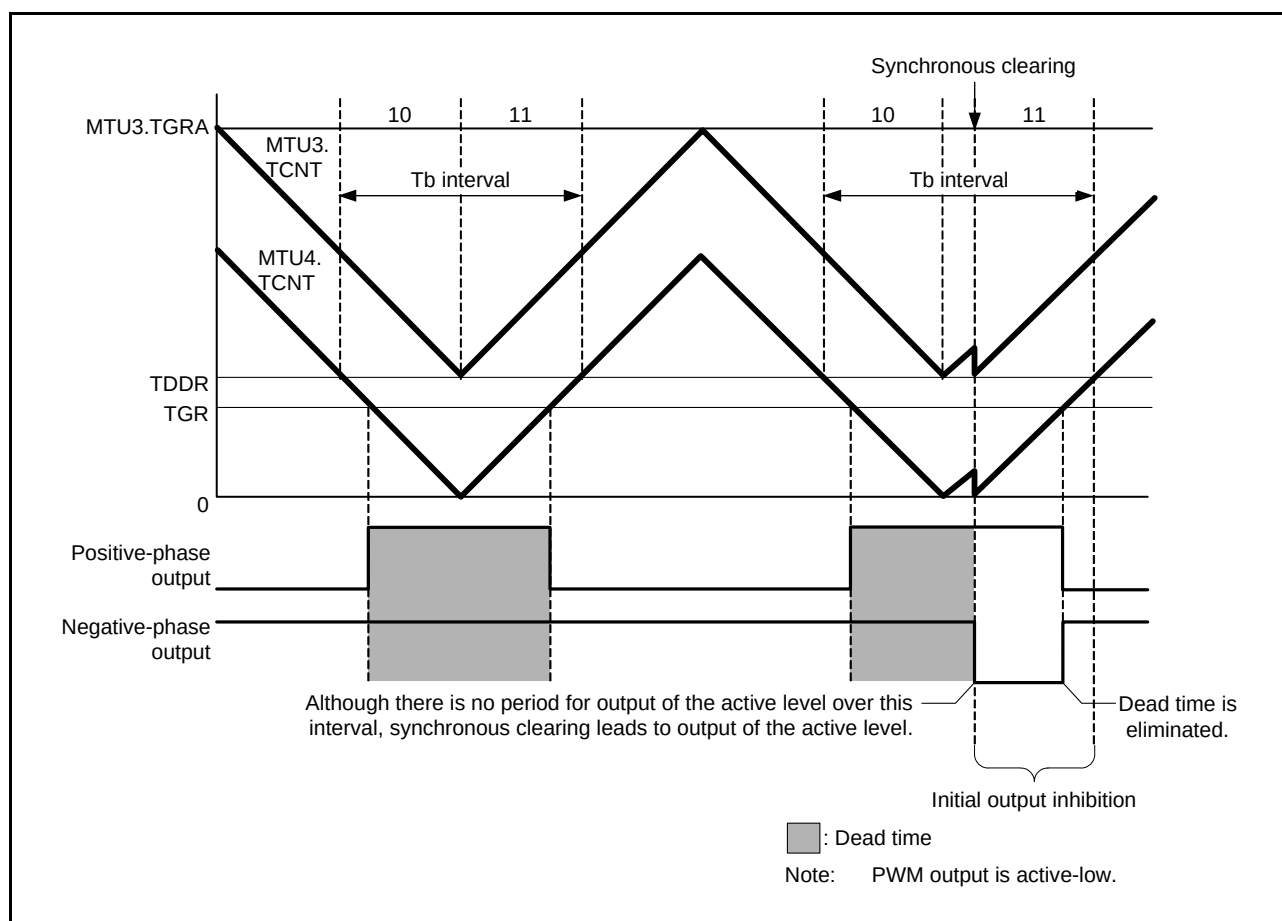

Figure 23.112 Example of Synchronous Clearing (When Condition 2 Applies)
Condition 2: In portions (10) and (11) of the initial output inhibition period in Figure 23.112, synchronous clearing occurs when any condition from among $MTU3.TGRB \leq TDDR$, $MTU4.TGRA \leq TDDR$, or $MTU4.TGRB \leq TDDR$ is satisfied.